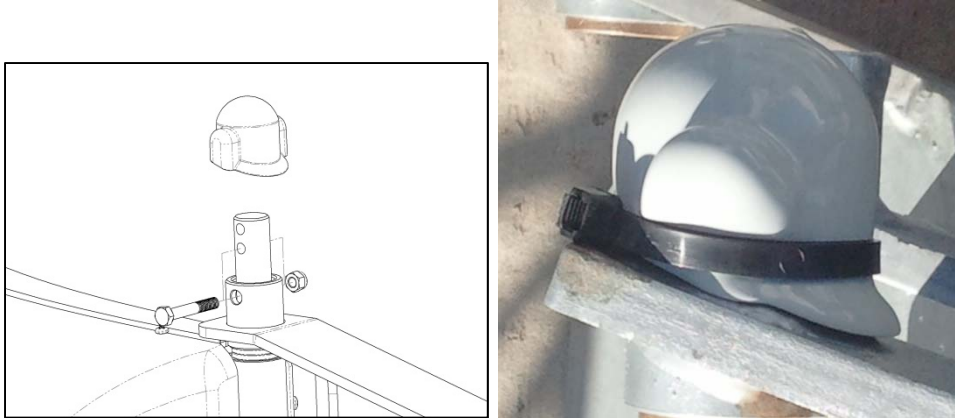

Figure 10: Tail Pivot Pin Cap
17. Place the tail pivot pin cap on the pivot pin and use a zip tie to secure it in place, as shown in Figure 10.